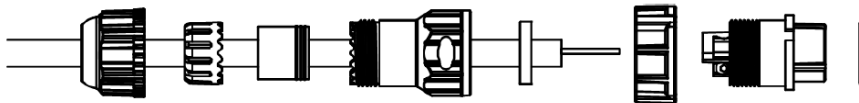

Figure 53: Core wire fixed into the screw fixing point
2. Use a 1.5 mm screwdriver, preferably an allen wrench, to fix the core wire(s) into the screw fixing point (Figure 53).